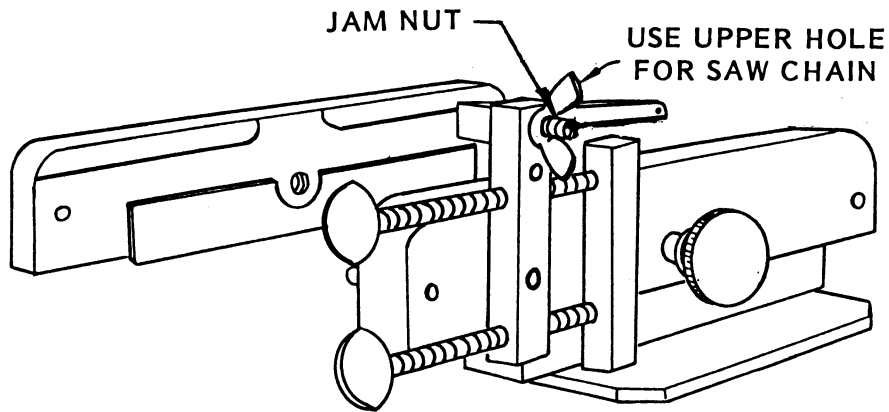

FIGURE 15
7. The bolt that the pawl pivots from should be in the upper hole for sharpening saw chain. (See Figure 15.) The pawl should be located directly over the chain, and locked in place with the jam nut provided.
8. Make sure the 16 gauge shim is in place between the clamping plates. (See Figure 15.)